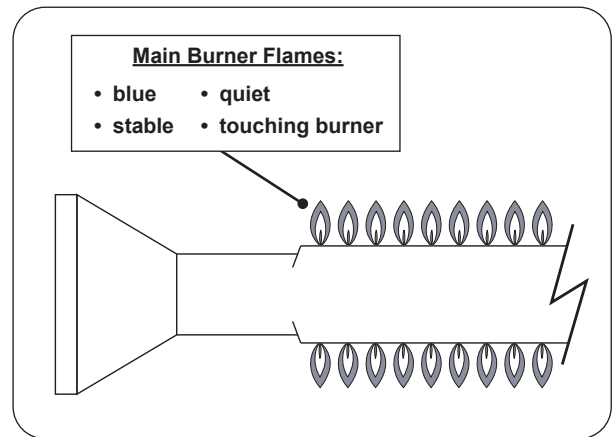

Fig. 40-1 Proper flame appearance
Note: To verify proper settings, the flames of the burners should be visually checked for proper flame appearance and behavior. Light the grill with the burner(s) on HI setting. Allow at least 2 minutes to burn. See below and Fig. 40-1. The flames should:
2. After burning for two minutes, open the air shutters **using the adjustment levers** until the flames lift off, or appear not to be touching the burners (Fig. 40-1).